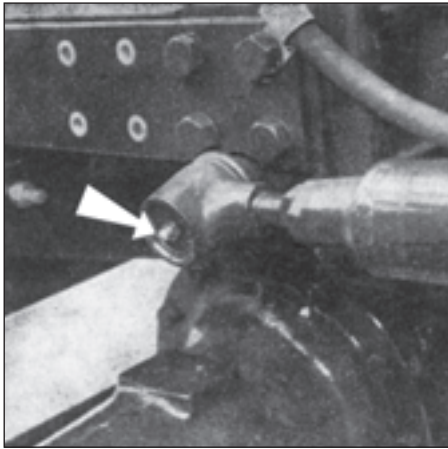

Fig. 171
35. Grease the head of the power-assisted steering, the head of the cylinder clamping (Fig. 171 and diagram of greasing A/17 — two positions) and the head on steering bars (fours positions).